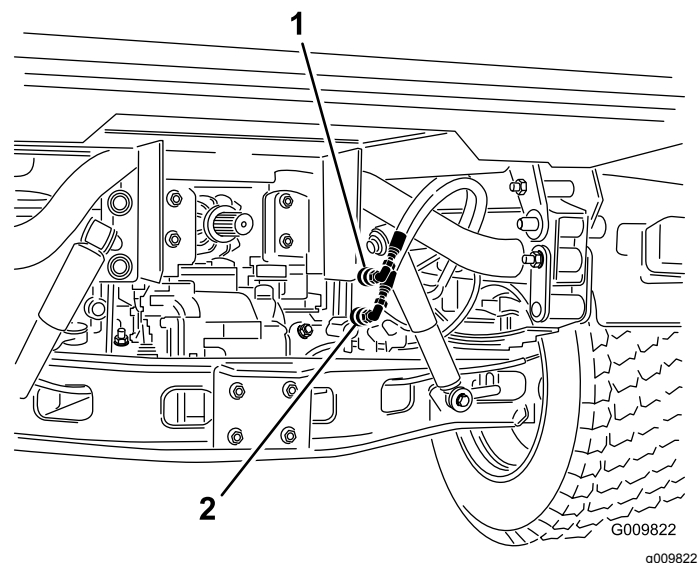

Figure 83
2. On both machine, disconnect the 2 quick-coupler hoses from the hoses secured to the coupler bracket (Figure 83).